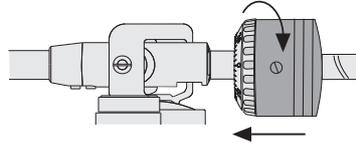

Fig. 5 Mounting the counterweight
2. Take the counterweight out of one of the two lateral polystyrene wrappings and place it on the rear end of the tone arm until it locks into the place. The counterweight is then used for precise adjustment of the stylus pressure on the record (Fig. 5).